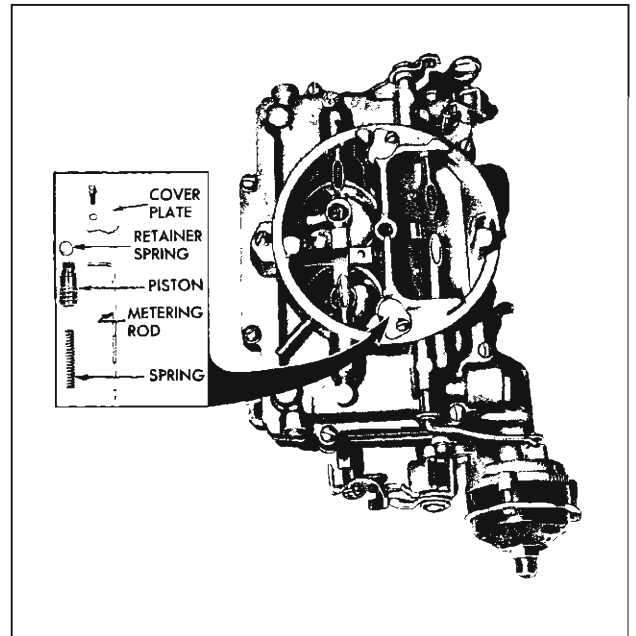

Fig. 27—Metering Rod Removal
3. Remove step-up piston cover plates, pistons and metering rods (fig. 27).
4. Remove screws holding two step-up position cover plates to air horn and remove cover, piston, step-up rod and spring (fig. 27).